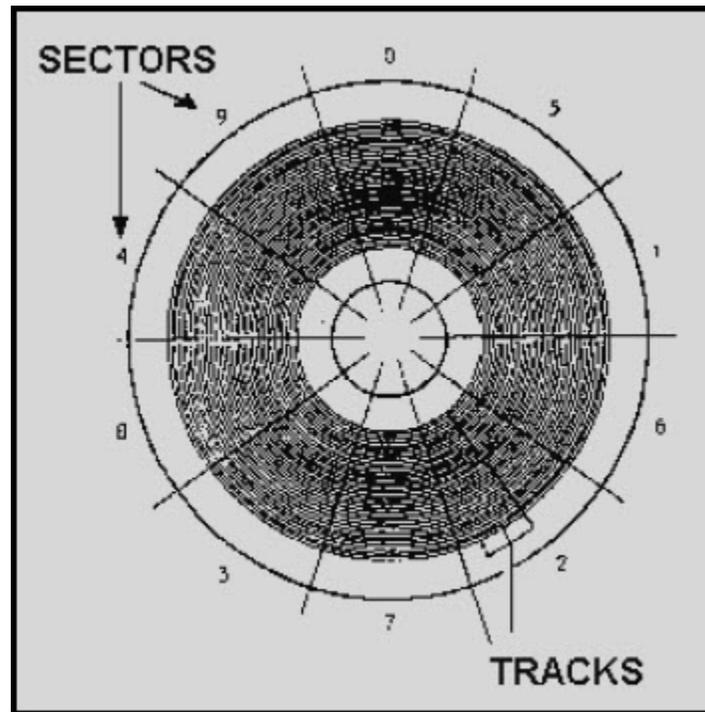

Figure 8-2 Tracks and sectors of a magnetic disk
Data is stored on a floppy disk in circular *tracks*. Figure 8-2 shows a circular track on a floppy disk. The total number of tracks on a floppy disk is permanently set by (1) the number of steps the disk drive's magnetic head stepper motor can make, and (2) whether the disk drive has a magnetic head for one or both surfaces of the floppy disk. These two things will also determine the type of floppy disk that's needed. Each type of disk is rated with a number that represents how many *tracks per inch (TPI)* it can hold. Some common track capacities are 40, 48, 80, and 96 TPI.
Each track of a floppy disk is broken up into arcs called *sectors*. A disk is sectored just as you'd slice an apple pie. Figure 8-2 shows the sectors of a floppy disk. How many slices are made? That depends on who made the disk and in what host computer the disk is used.